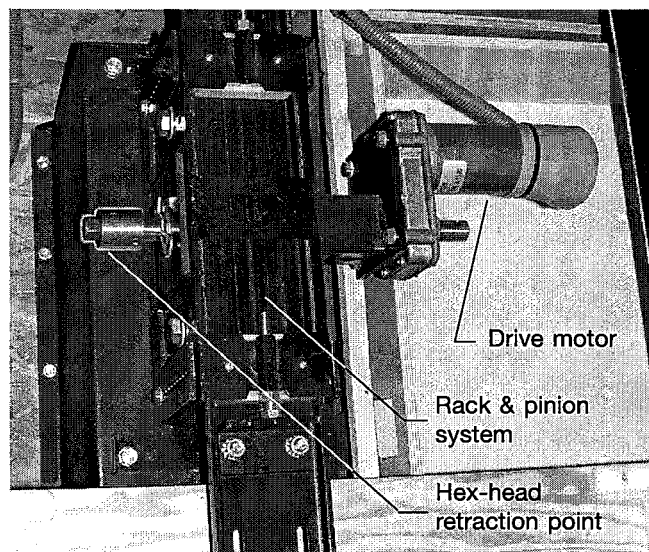

Figure 5.7
- The bedroom slide-out emergency retraction system is located under the bed. The bed is hinged at the outer wall (the driver side) and can easily be lifted. This reveals the motorized rack and pinion drive system beneath. See **Figure 5.7**.